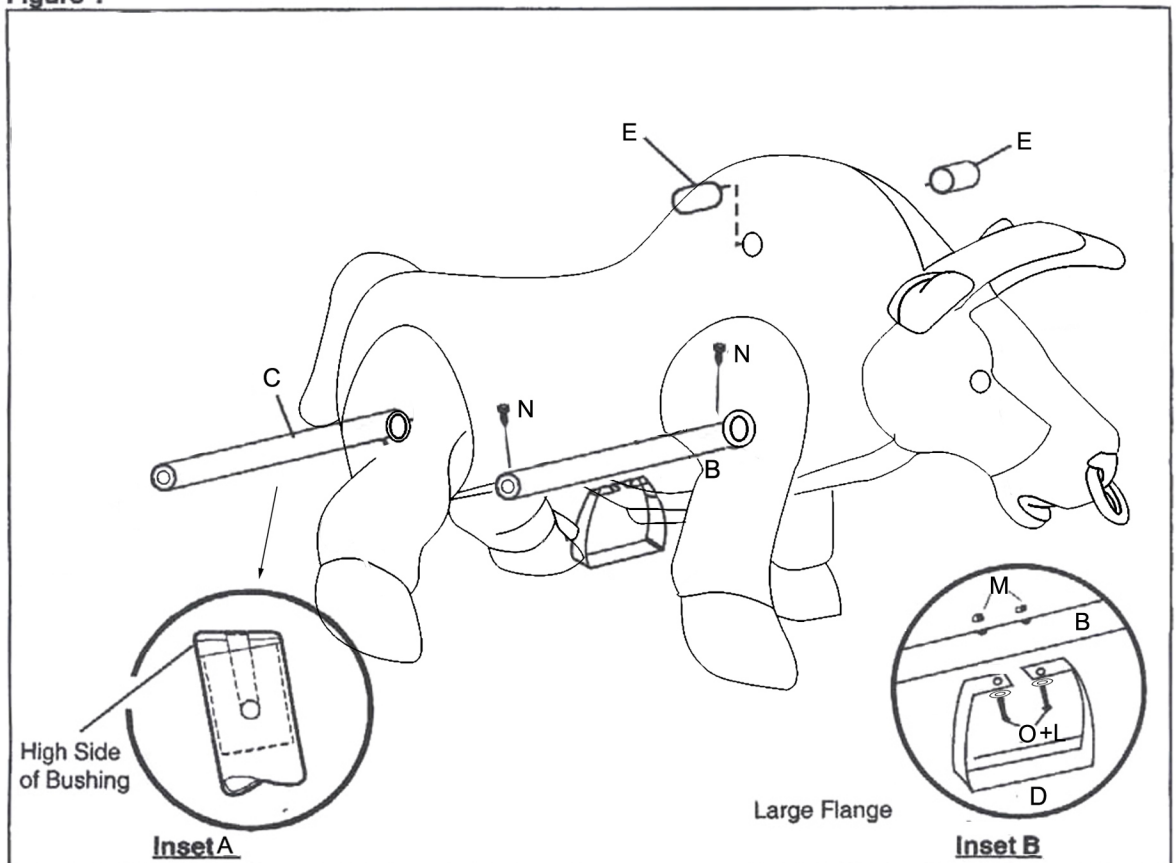

Figure 3
3. Hook end of Spring into right rear Body Tube Bushing. See Figure 3 Inset A.
4. Hook other end of Spring into Bushing in Leg Tube. See Figure 3 Inset B.
5. Hook end of Spring into left front Body Tube Bushing. See Figure 3 Inset A.
6. Hook other end of Spring into Bushing in Leg Tube. See Figure 3 Inset B.